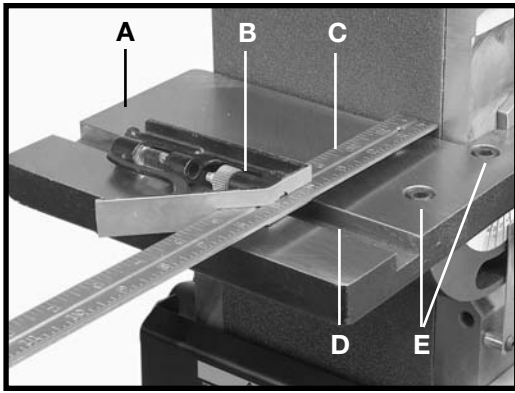

Fig. 25
2. Position the table (Figs. 25 and 26) 90 degrees to the belt. Place a square (B) in the miter gauge slot with the blade (C) of the square touching the sanding belt. Check the opposite end of the belt to see if the miter gauge slot (D) is parallel to the belt.
3. To adjust, loosen the two screws (E) Figs. 25 and 26. Move the table (A) until the miter gauge slot is parallel to the sanding belt. Tighten the two screws (E). **NOTE:** When making this adjustment, tighten the table lock handle.